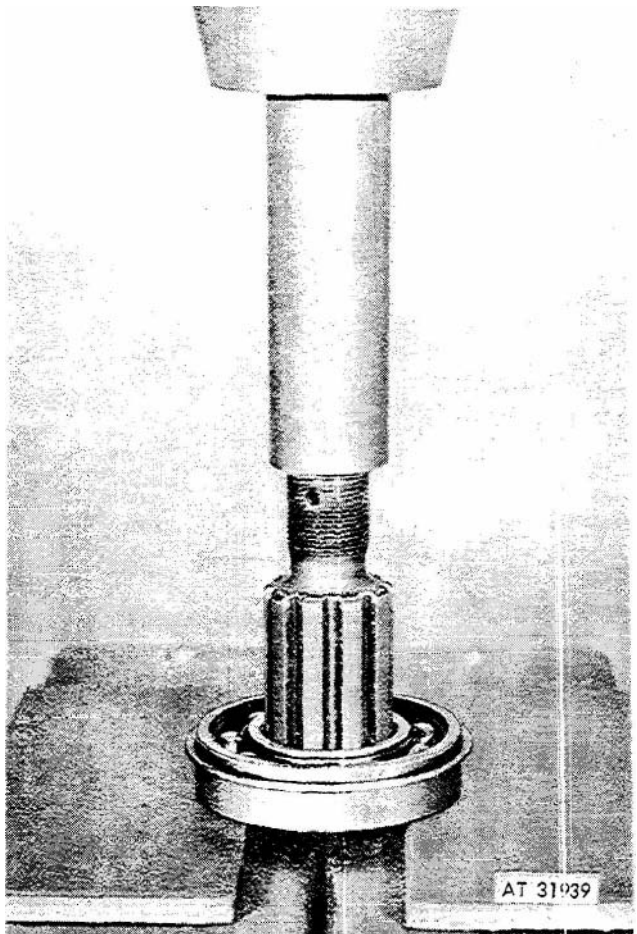

Figure 3-143. Pressing bearing from thru-shaft.
(11) Disconnect retainer (8, fig 3-141), gasket (9), and shaft (11) from differential housing (15) as an assembly by removing bolt (6) and lock washer (7). Remove shaft from retainer and press bearing (10) from shaft (fig 3-143).